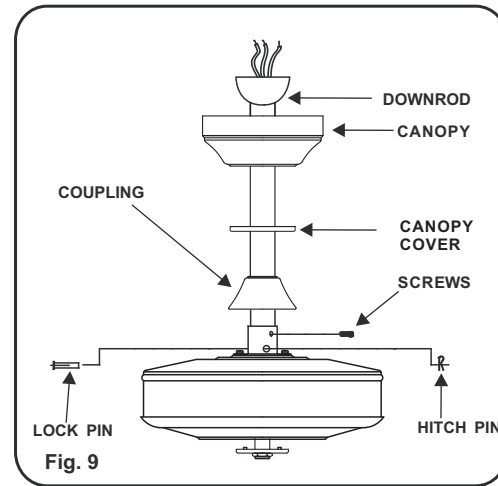

Fig. 9
Step 5. Slip coupling cover, canopy cover, and canopy onto downrod (Fig.9). Carefully reinstall hanger ball onto rod being sure that cross pin is in the correct position, set screws are tighten and wires are not twisted.